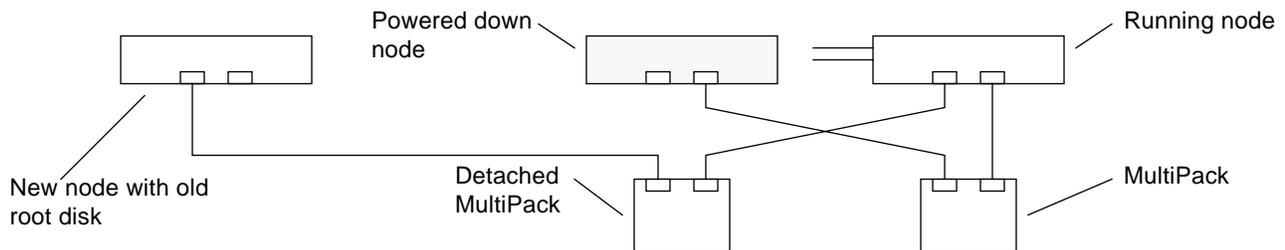

Figure 7-3 First SCSI Cable Attached to the New Node
8. Physically disconnect the SCSI cable that goes from the detached MultiPack to the powered down node at the powered down node (Figure 7-3).
9. Connect the SCSI cable from the detached MultiPack to the new node (Figure 7-3).